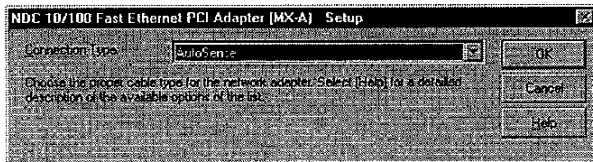

Figure 31. NDC 10/100 Fast Ethernet PCI Adapter (MX-A) Setup
step9. The Connection Type dialog box will open (**Figure 31**) with a setting of "AutoSense"